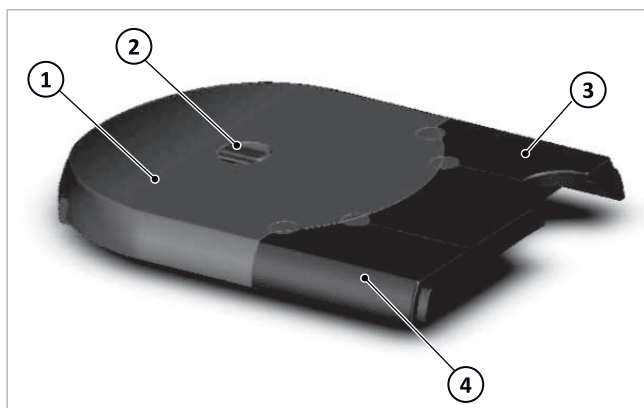

Fig. 65: Top SolvisBen insulation
1. Take off the top insulation sections for the hot water station → fig. 65 (4) and heating circuit station → fig. 65 (3) from the top.
2. Take the tank insulation → fig. 65 (1) and carefully cut off the four foam plugs along the grooved slot (6) on the hot water station (5) using a sharp knife.
3. **Only with an integrated heating circuit station:** Cut off the plugs for the heating circuit station (7) along the slots (8).
4. Place the top tank insulation → fig. 65 (1) on the tank.
- On the left and right side (1)
- In the middle at the rear (2)
- In the middle at the front (3)
→ fig. 65 (3).
7. To ensure minimal heat loss, fit the pipe insulation (1)
1. Completely install the assembled top insulation → fig. 65 (1+2+3+4) on the tank.